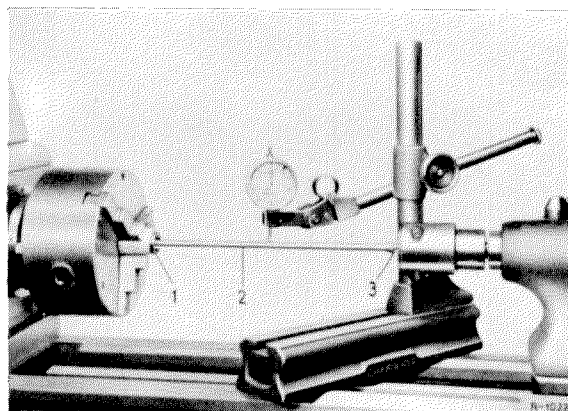

Figure 05-3/1
Check alignment of push rod. To do this, clamp a tappet (1) in the jaw chuck of a lathe, and a ball head pin (3) in a drill chuck in the tailstock. Then mount the push rod between the tappet (1) and ball head pin (3) without tension (see Figure 05-3/1). Turn the push rod (2) by hand and measure the deflection at 2-3 points of the push rod between the tappet and the ball head pin with a gauge (see Figure 05-3/1).